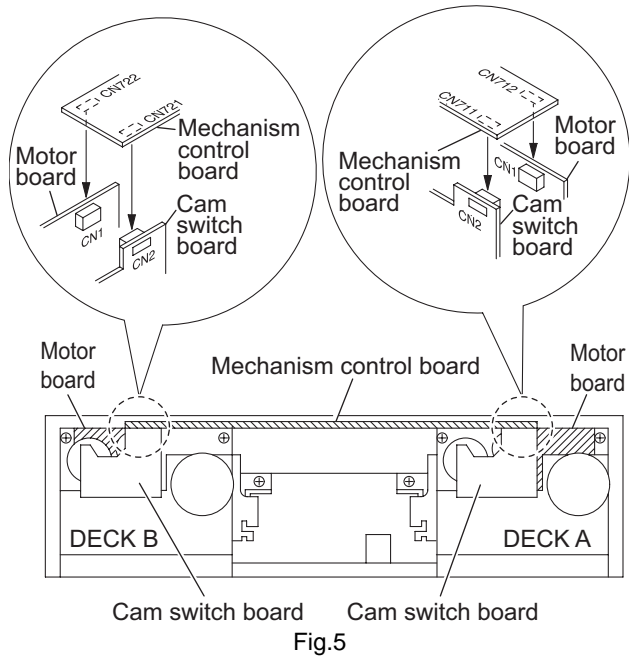

Fig.5
- (3) For moving the mechanism assembly only, disconnect the following wirings.
a) Mechanism assembly side (Fig.5)